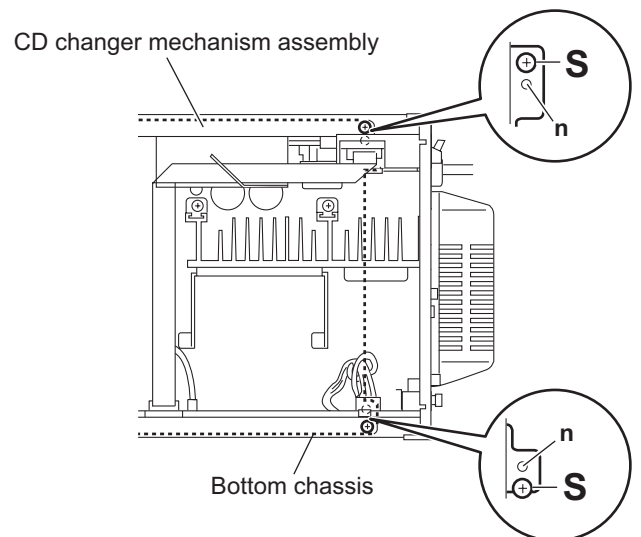

Fig.18
- (4) From the top side of the main body, remove the two screws **S** attaching the CD changer mechanism assembly. (See Fig.18.)
Align the projections **n** on the bottom chassis in the holes of the CD changer mechanism assembly before attaching the screws **S**. (See Fig.18.)